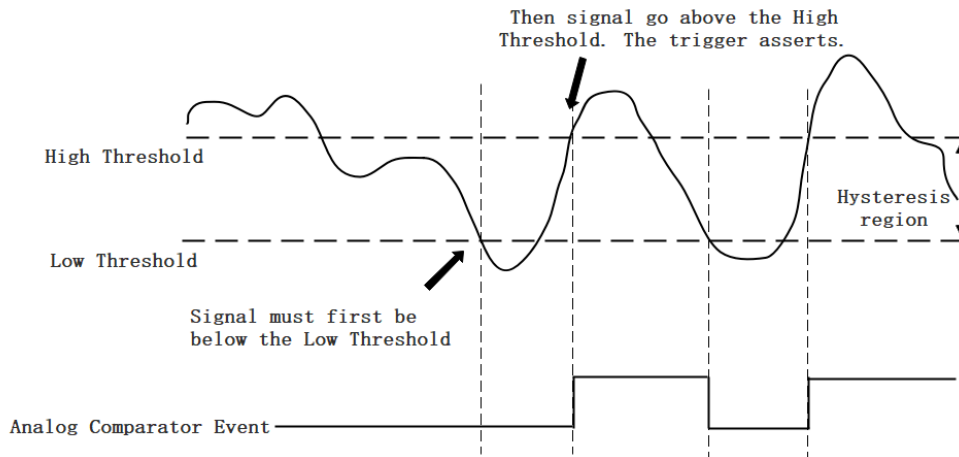

Figure 17 Hysteresis with Rising Slope Trigger
*Hysteresis with Rising Slope Trigger:* The Hysteresis comparator output is high when the signal must first be below the low threshold, then goes above the high threshold. The output will change to low when the signal goes below the low threshold as shown in Figure 17.